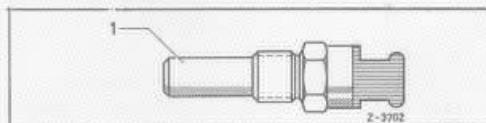

FIG. 16
4. A WATER TEMPERATURE SENSOR (Fig. 16) is located in the coolant circuit. Its function is to provide a fuel enrichment up to a water temperature of 150°F.. The ohmic resistance value of the sensor lessens progressively with decreasing water temperature.